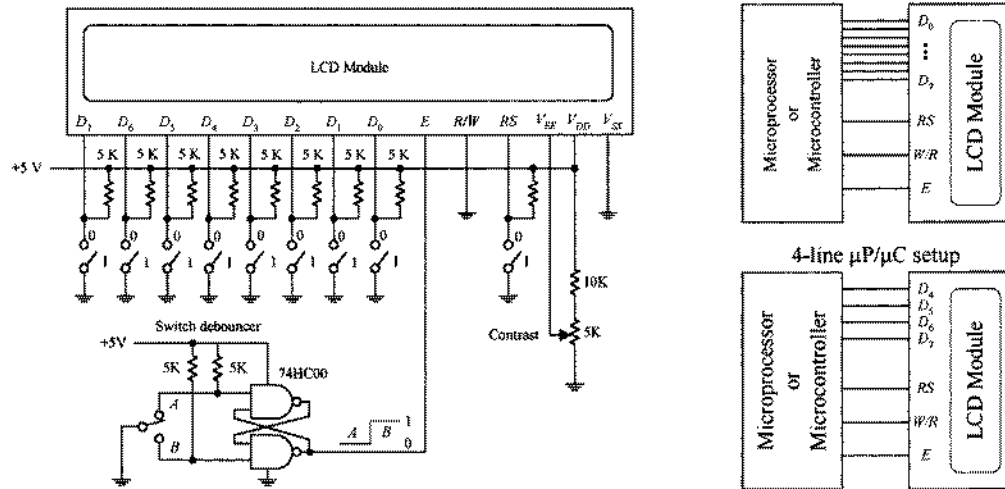

FIGURE I.19
Figure I.19 shows a simple test circuit that is quite useful for learning how to send commands and character data to the LCD module. (In reality, the LCD module is connected to a microprocessor or microcontroller, as shown to the left in the figure. We'll discuss these interfaces later in this section.) In this circuit, switches connected to data inputs use pullup resistors in order to supply a high (1) when the switch is open or supply a low (0) when the switch is closed. The enable input receives its high and low levels from a debounced toggle switch. Debouncing the enable switch prevents the likelihood of multiple enable signals being generated. Multiple enable signals tend to create unwanted effects, such as generating the same character over and over again across the display. The 5-k Ω pot is used for contrast. Note that in this circuit we've grounded the R/W line, which means we'll only deal with writing to the display.
The 4-bit transfer is frequently used when the LCD module is interfaced with a microcontroller that has limited I/O lines. See Fig. I.19.